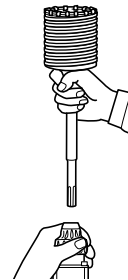

Fig. 14
- (2) Mount the core bit shank to the Rotary Hammer. (Fig. 14)